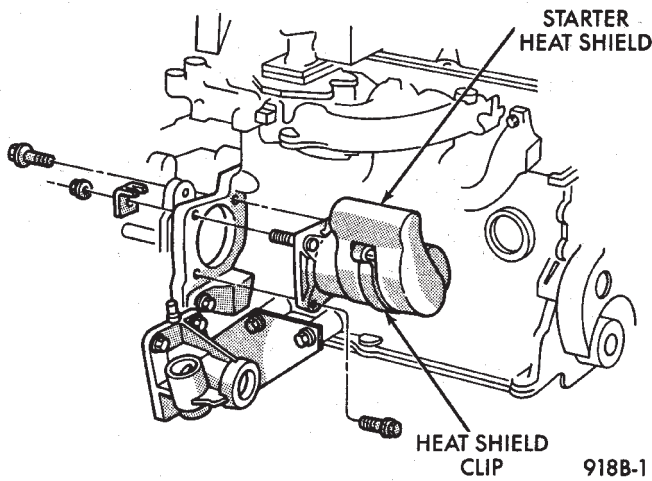

Fig. 2 Starter Heat Shield—4 Cylinder Engines
- (2) Raise vehicle.
- (3) Remove heat shield clip from the starter and heat shield (Fig. 2).